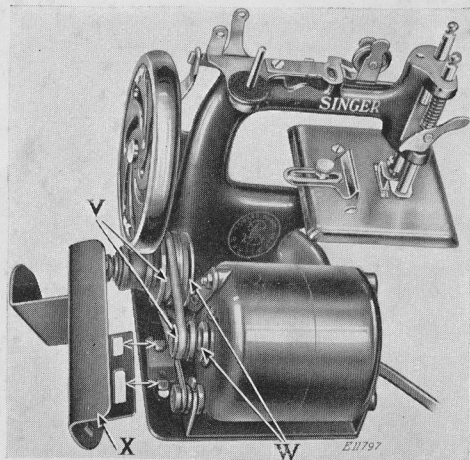

FIG. 3
To change to a different speed, remove the guard (X, Fig. 3) over the motor pulley by pressing it downward and sliding it back.
For the slow speed, move the belt to the outside grooves (V) in the two pulleys, as shown in Fig. 3. For the faster speed, move the belt to the inner grooves (W) in the pulleys. Be careful not to stretch the belt.